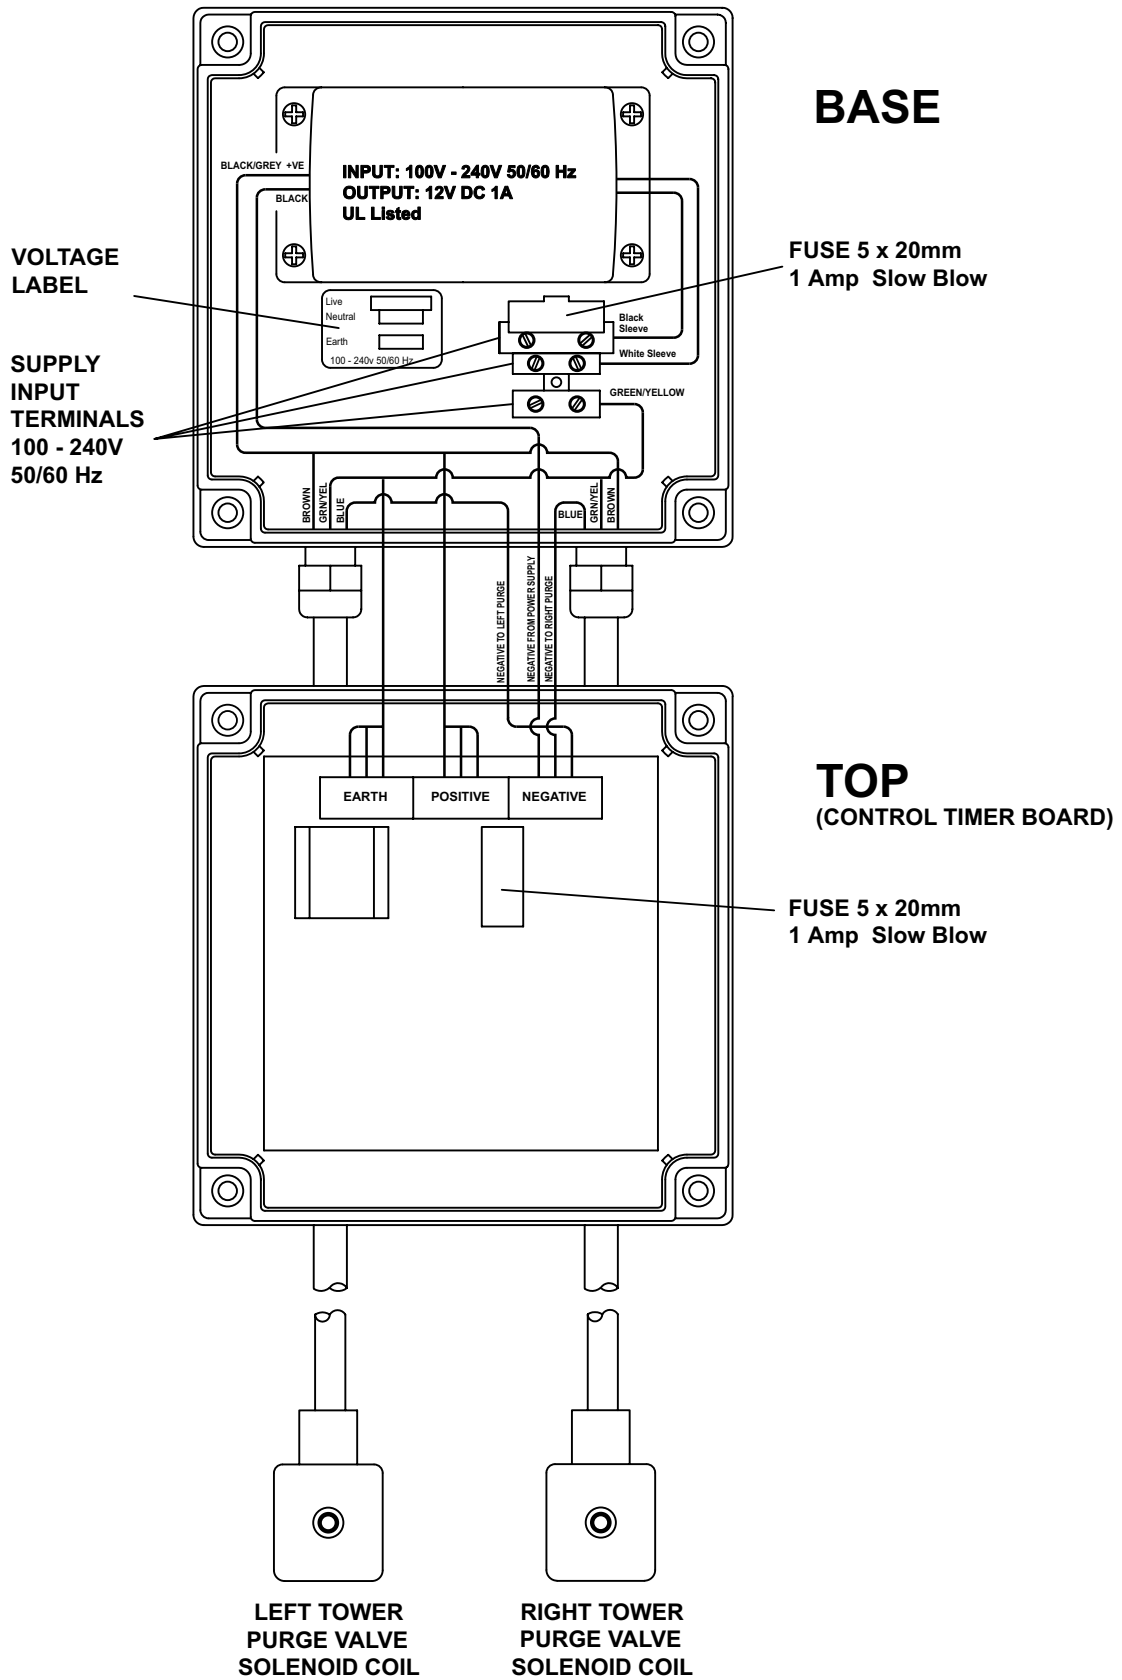

Figure 6-2
- Figure 6-2, Point-to-Point Diagram – Timer Controller
See Figure 6-2, Point-to-Point Diagram for the location and function of the various cable and cord connectors that are provided on the bottom of the Timer Based enclosure.